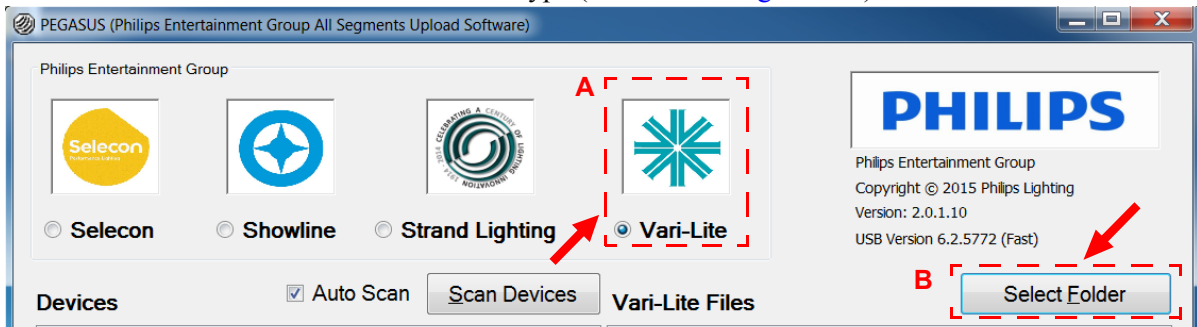

Figure 3-8: PEGASUS Software Selection Screen
- a. Select Vari-Lite for luminaire type (as shown in Figure 3-8.).
- b. As indicated in Figure 3-8, click on Select Folder button to open browser window.